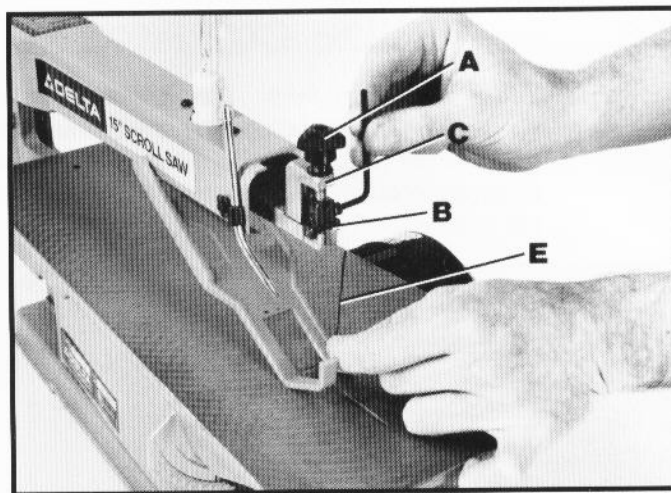

Fig. 35
3. Tighten blade holder locking knob (A) Fig. 35, to securely hold the upper blade holder (B) in upper arm (C). Using wrench, loosen blade holder screw and remove blade (E) from upper blade holder (B), as shown.